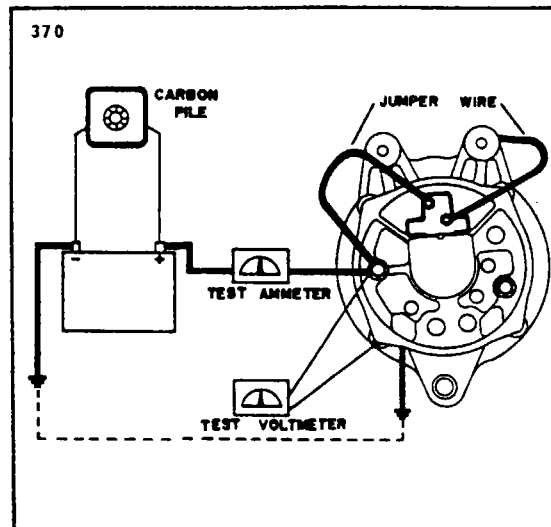

Figure 11-28. Testing Alternator
a. Wiring connections for bench testing the alternator are shown in Figure 11-28. Refer to the individual specification pages for output test figures. Adjust the carbon pile, if necessary, to obtain the specified voltage.